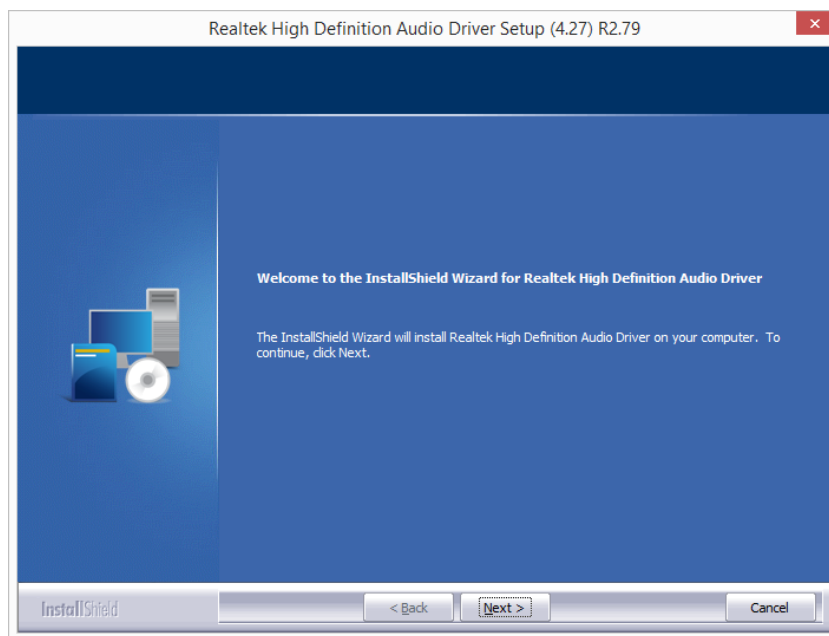

Figure 5-4: Realtek HD Audio Driver InstallShield Wizard
Step 2: Double click the setup file in the folder. The **InstallShield Wizard** screen appears (**Figure 5-4**).
Step 2: Double click the setup file in the folder. The **Install Wizard** screen appears (Figure 5-4).